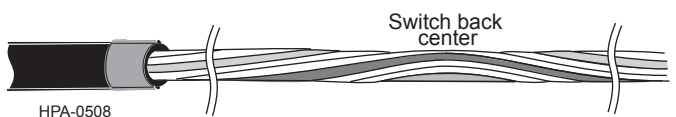

Figure 25
Step 11: Locate the switch back center where the direction of the buffer tube's wrap around the central member switches to the opposite direction (Figure 25).